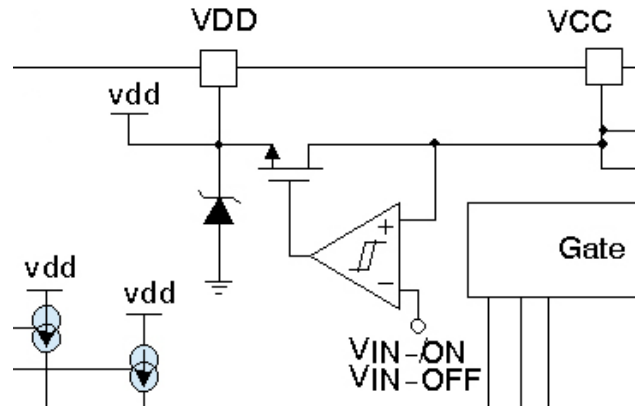

Figure 8. VDD Generation with FUSB3307
FUSB3307 will not attach to any Sink devices unless 5 V (4.75 V to 5.5 V voltage range) is first attained on its VCC pin since that is the basis of both the USB Type C and USB Power Delivery (PD) specifications. From this 5 V on VCC, the FUSB3307 derives its VDD voltage which is used for powering the internal circuitry as illustrated by this section of the block diagram shown in Figure 8.